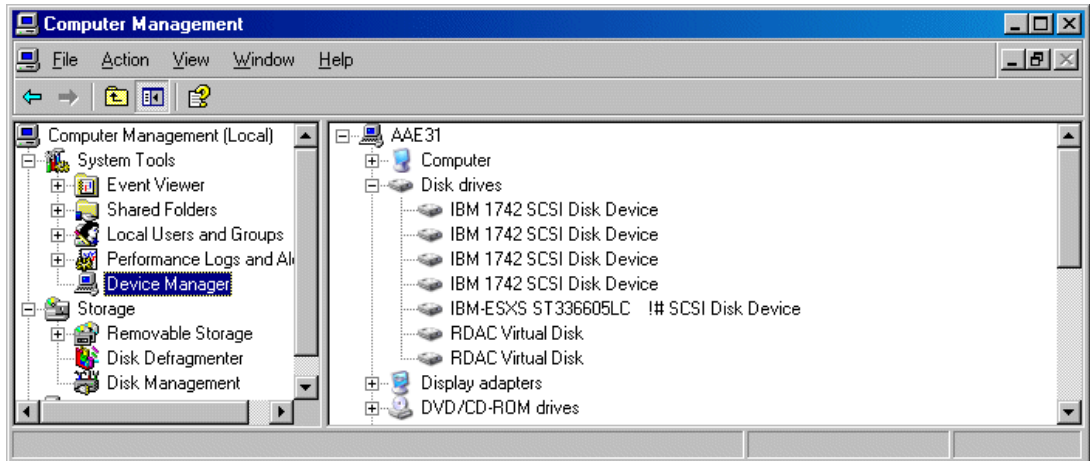

Figure 10-11 Windows device status after FlashCopy
- ▶ The FAST is connected to an Intel server with two host bus adapters and the Windows device status now shows now four 1742 SCSI Disk devices and two RDAC Virtual disks, because the FlashCopy volume is now accounted for in the system. See Figure 10-11 on page 332.